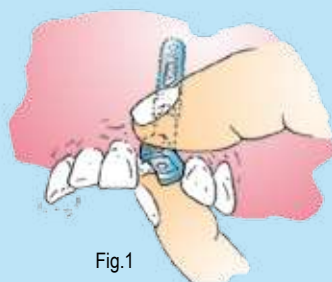
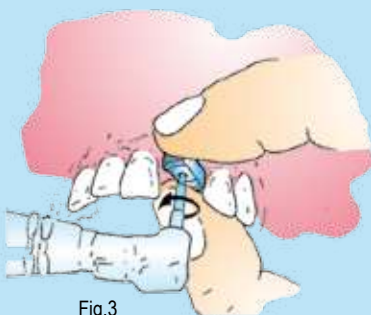
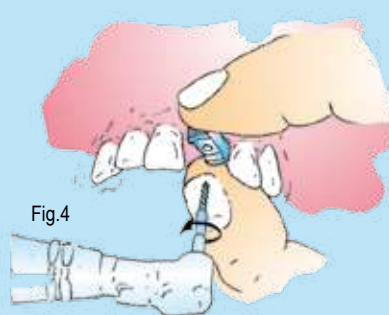

Fig.1
Fig.3
Fig.4
Insert the CLAW REAMER BUR (C) into the MANUAL DEVICE (B). Insert them into the CENTERING DEVICE (A) and connect it into the implant. By applying a constant pressure on the broken screw through the MANUAL DEVICE, unscrew it and remove it from the implant. Once all laser engravings of the CLAW REAMER BUR come out from the CENTERING DEVICE the operation is complete and the broken screw can be easily removed with suction or tweezers (Fig.1 and 2). In case of the screw remains locked inside the implant, insert the CLAW REAMER BUR into the 20:1 implantology contra-angle handpiece. Set the implant insertion program in anti-clockwise rotation and maximum torque; by applying a constant pressure insist on the broken screw to flatten it and prepare it for the next steps. Once done, remove the leftovers from the implant with air, water, and suction, insert the REVERSE CUTTING BUR (D) in the 20:1 implantology contra-angle. Set the program in anticlockwise rotation with speed between 500 and 600 rpm. Refrigerate with plenty of water during this operation. Insert the REVERSE CUTTING BUR into the CENTERING DEVICE, start the rotation, keep it pressed for no more than 3 seconds on the broken screw and release (Fig.3). This alternating movement facilitates the entry of water for the refrigeration of the implant and of the REVERSE CUTTING BUR. It is absolutely necessary that the CENTERING DEVICE does not move during the whole operation (Fig.4). If the CENTERING DEVICE moves, the REVERSE CUTTING BUR will break. Once all laser engravings of the REVERSE CUTTING BUR disappear in the CENTERING DEVICE the operation is complete and the screw is completely destroyed. Once the screw has been destroyed, the leftovers must be removed from the implant with air, water, and suction.